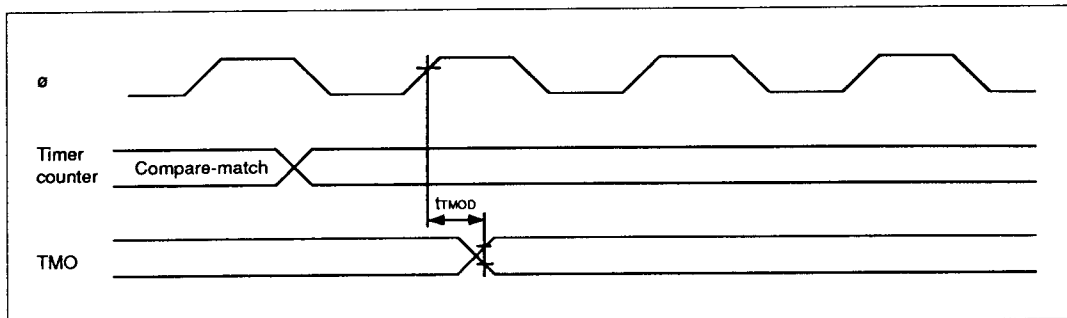

Figure 18-13 8-Bit Timer Output Timing
18.3.6 8-Bit Timer Timing	Figures 18-13 to 18-15